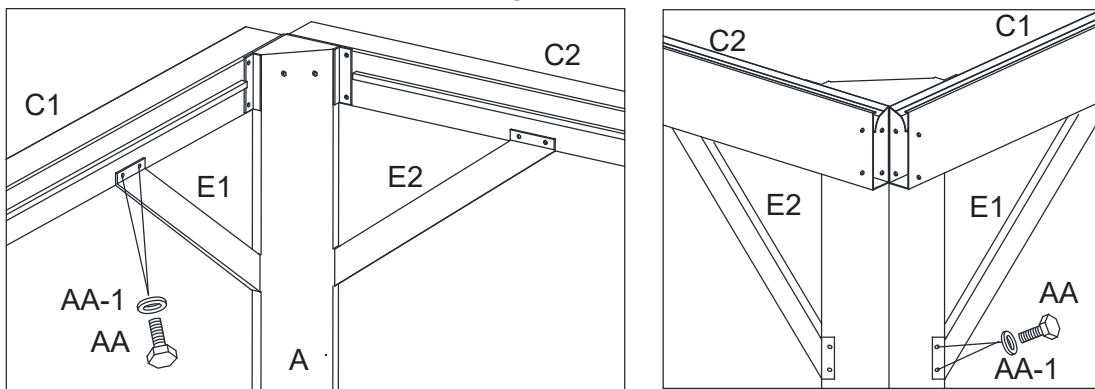

Figure 4-2
4.2. Attach Support Bars (E1/E2) to Corner Post (A) and to Lintels (C1/C2) with Bolts (AA) and Steel washer (AA-1). See Figure 4-2.